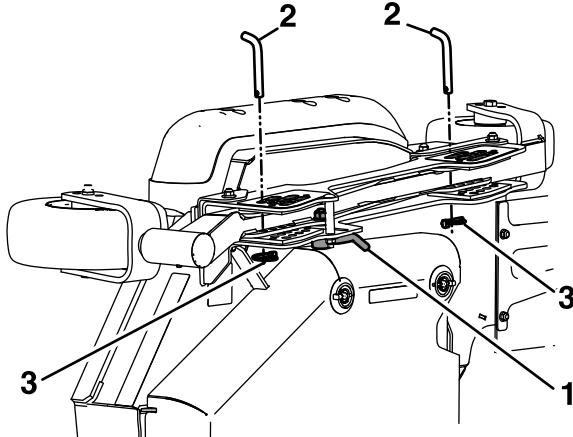

Figure 80
3. Unlock the left and right wing deck cam locks (Figure 80).
4. Remove and retain the wing deck height-of-cut lanyard (Figure 80).